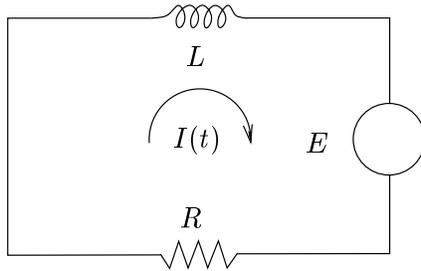

Figure 4. An LR -circuit with constant voltage E and zero initial current $I(0) = 0$.
- 24 Example (Electric Circuits)** For the LR -circuit of Figure 4, show that $I_{SS} = E/R$ and $I_{tr} = I_0 e^{-Rt/L}$ are the steady-state and transient currents.
- 25 Example (Time constant)** Show that the current $I(t)$ in the LR -circuit of Figure 4 is at least 95% of the steady-state current E/R after three time constants, i.e., after time $t = 3L/R$.